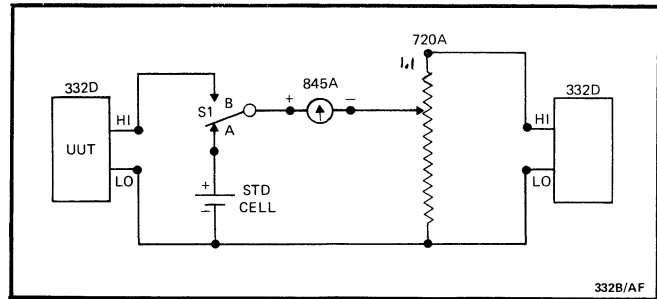

Figure 4-3. CONNECTIONS FOR SAMPLE STRING LINEARIZATION
- d. Using the 7101B DC Voltage Calibration System make the equipment connections shown in Figure 4-3.